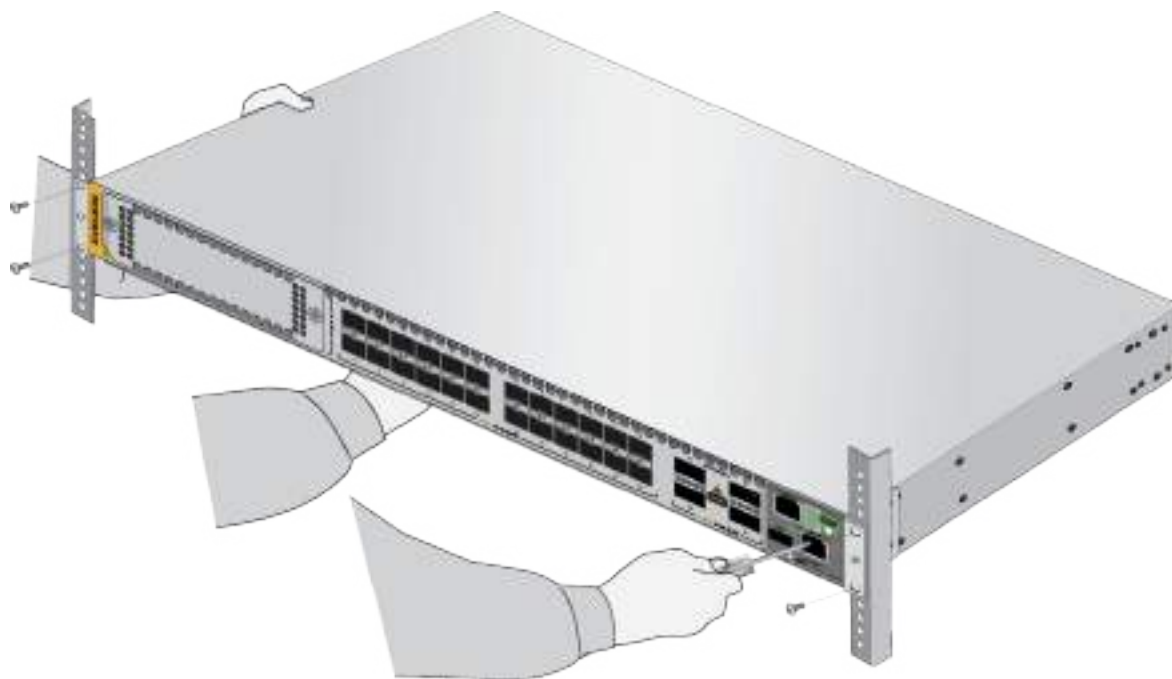

Figure 68. Installing the Switch in an Equipment Rack
4. Have another person hold the switch in the equipment rack while you secure it using standard equipment rack screws (not provided). Refer to Figure 68.